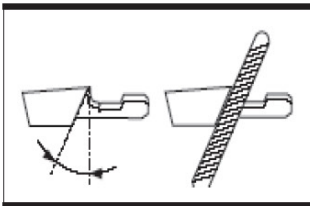

Fig. AA3
- Keep the file position as illustrated. (Fig. AA3& AA4)